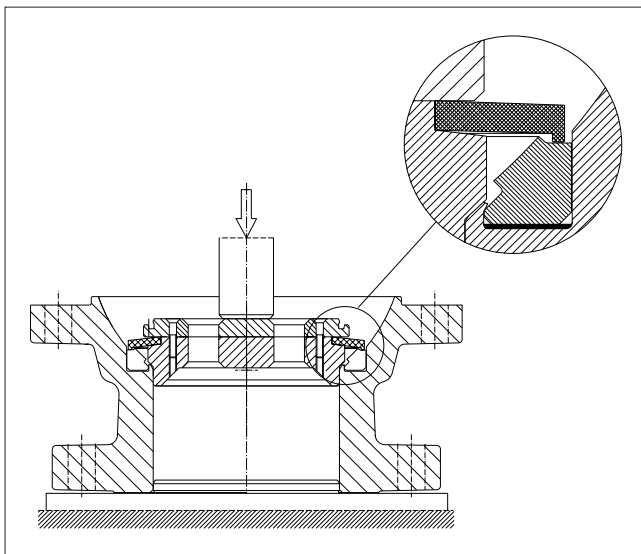

Fig. 25 Locking of the seat
- Mount the locking tool carefully over the seat, see Fig. 25.